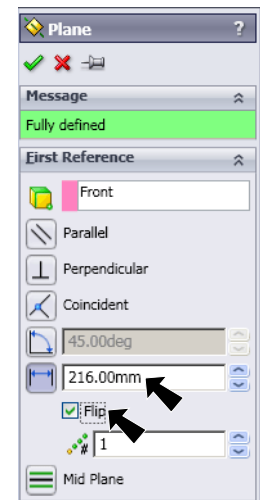

Fig. 53
Step 4. Key-in **216 for Distance** in the Property Manager, **Fig. 53**
Press the **Tab** key on keyboard. If you can not see the **Plane** check **Flip**, **Fig. 53**.